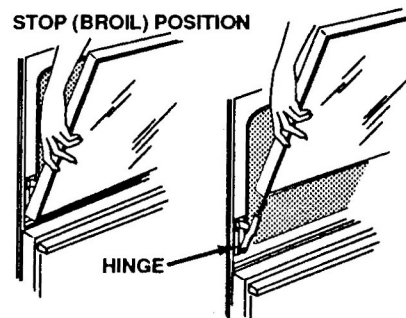

Fig. 5
1. Open the door to the broil stop position (see Fig. 5).
6. Slide the door down onto the hinges as far as it will go and close the door (see Fig. 5 on previous page).